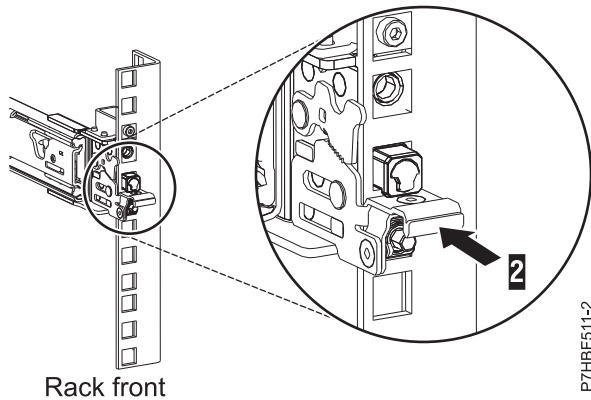

Figure 5. Latch seated on the front rail of the rack
5. While you pull the slide rail forward, ensure that all three pins protrude through the rack holes, then push the front latch (2) all the way in. For details, see Figure 5 on page 6.